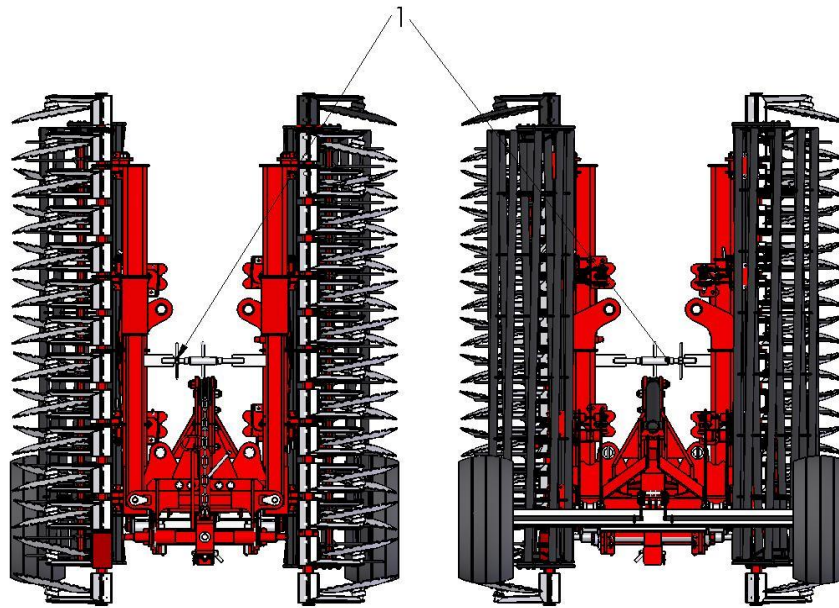

Fig. 1 Transport position of the machine – 1 – coupling rod
- the side sections of the machine must be folded to the transport position and secured with bolts against unfolding during transport (see. fig. 1).
- disconnect the coupling rod 1 (fig. 1), then unfold the machine to its working position,